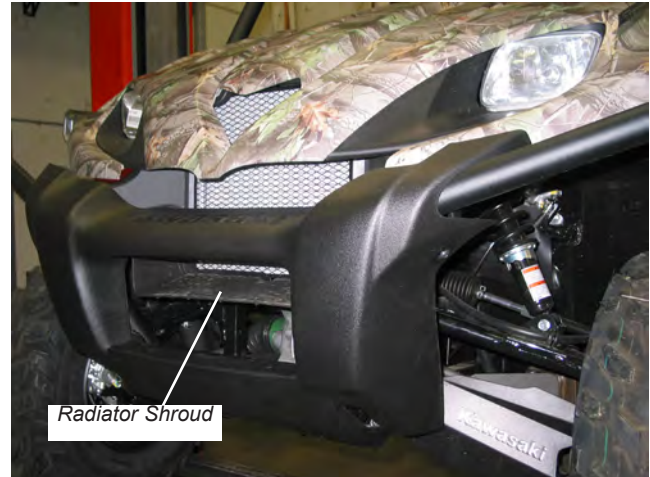

Figure 1 (2009 Shown)
1. Remove front bumper from vehicle, as shown in Figures 1 and 2. A 14mm socket can be used to loosen from frame. Slide bumper down, then forward to avoid contact with radiator.
2. For 2009 models, remove radiator shroud, as shown in Figure 1, with a Phillips head screwdriver. Keep wire mesh screen, in front of radiator, in place.